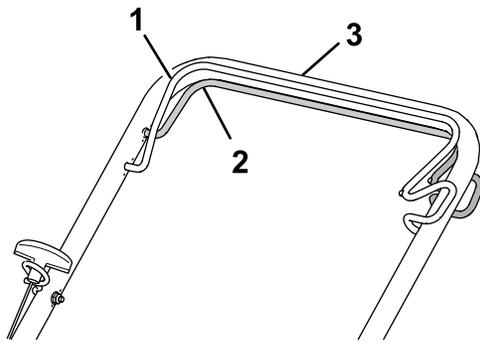

Figure 15
- **To engage the self-propel-drive:** Pull the self-propel-drive bar to the handle and hold it (Figure 15).